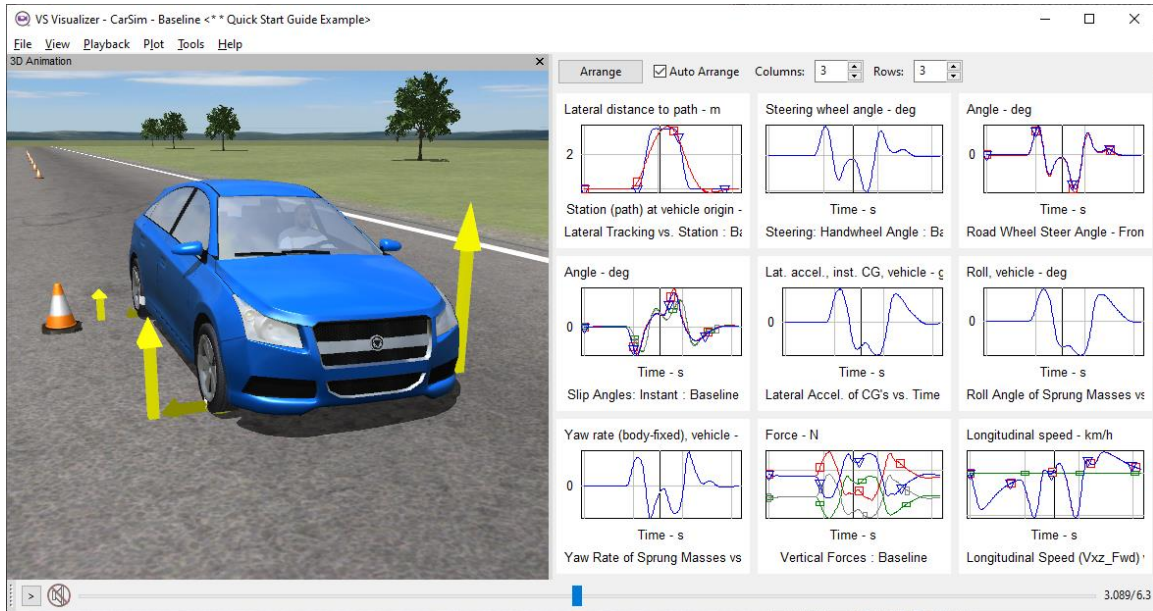

Figure 2. Viewing synchronized video and plot of CarSim vehicle response with VS Visualizer.
**Plots and Visualization:** CarSim includes VS Visualizer, a tool for providing high-quality animation of simulation results corresponding to engineering plots of hundreds (or sometimes thousands) of variables from the math model (Figure 2). Time-synchronization of the plots and video facilitates the viewing of both qualitative and quantitative data, and the option to overlay multiple runs (up to six total) allows for comparisons of various vehicle and control combinations.
Clicking the **Video + Plot** button (11) to launch VS Visualizer will bring up a window showing a camera view and a grid of plots (Figure 2, page 3).